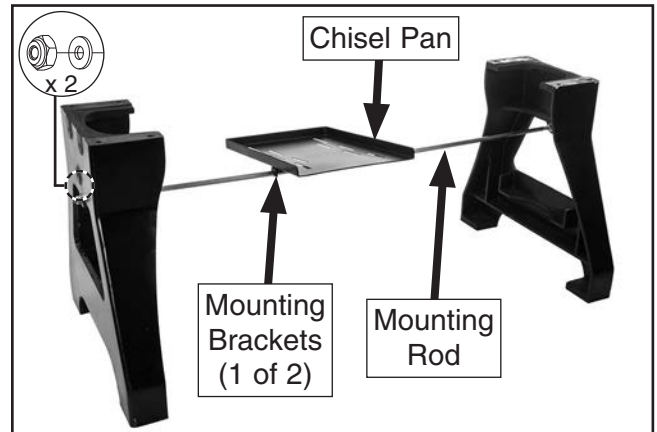

Figure 14. Chisel pan components installed on stand.
2. Insert chisel pan mounting rod into two brackets underneath chisel pan (see **Figure 14**).
3. Install (1) M12-1.75 hex nut and (1) 12mm flat washer on each end of mounting rod, then insert into designated hole on each leg (see **Figures 14–15**) and loosely secure with (2) M12-1.75 lock nuts and 12mm flat washers.